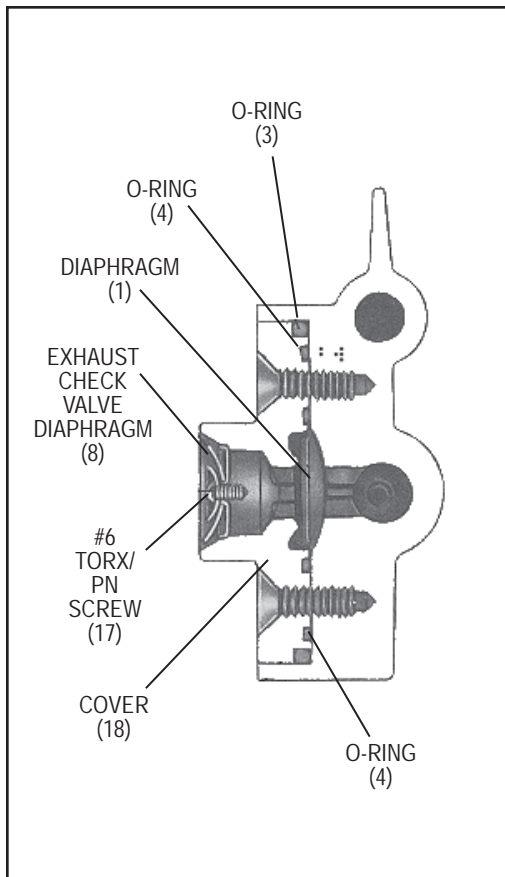
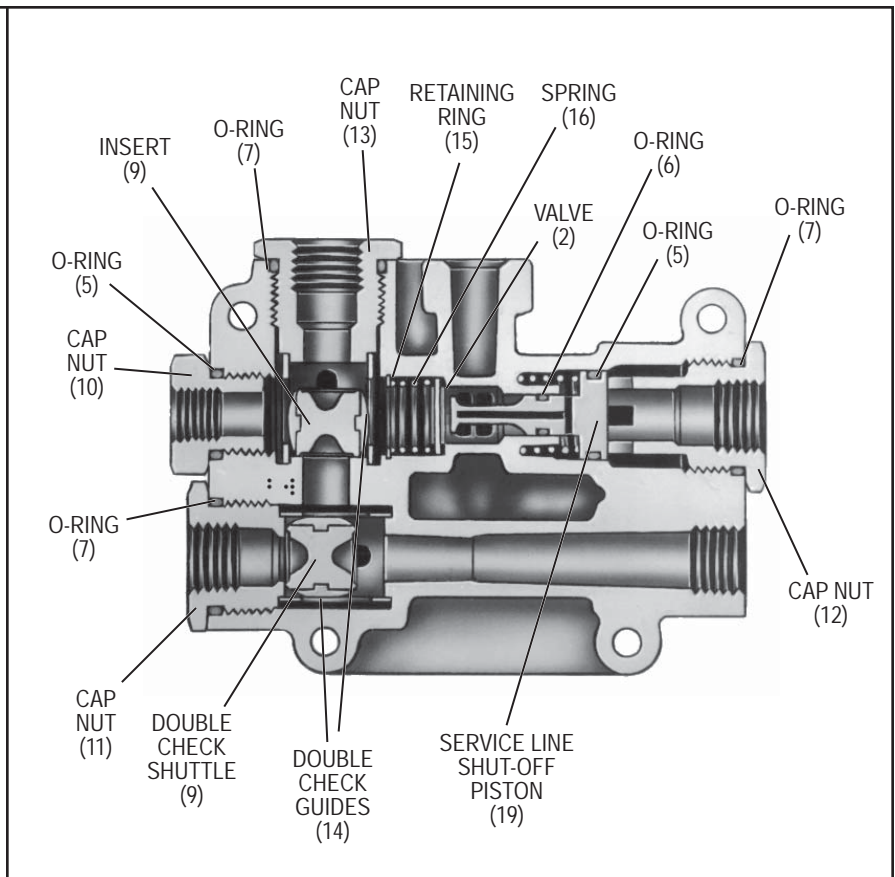

FIGURE 3 - BENDIX® TP-5™ TRACTOR PROTECTION VALVE END SECTIONAL VIEW
FIGURE 4 - BENDIX® TP-5™ TRACTOR PROTECTION VALVE SIDE SECTIONAL VIEW
The trailer service line port is located in the cover, as seen in Figure 3. This cover also houses a quick release valve. Diaphragm (Item 1 in Figure 3) seals off the exhaust port on application and upon release of service line application, permits the trailer service line air to exhaust through the exhaust port, thus permitting faster release times for trailer brake release.
2. Disconnect the trailer service line hose coupling. Make a trailer hand control valve application. Cover the 1/16 inch vent hole in the service line shut-off valve area of the Bendix® TP-5™ valve body. Check for leakage at hose coupling and at exhaust port at the TP-5™ valve. Excessive leakage at either port indicates a faulty inlet valve, item 2 on Figure 4.
6. Check for leakage at the service line quick release valve. Excessive leakage would indicate a defective diaphragm (1). See Figure 3.
8. Check for leakage at the 1/16 inch vent hole. Leakage indicates either o-ring (6) or o-ring (5) on the service line shut-off piston (19) is defective. Note the same size o-ring is identified as (5) is also used on cap nut (10).
9. Release the hand control valve application and re-check for leakage at the vent hole. If the leakage continues, the large o-ring (5) is the cause for the leak and if the leakage stops, the smaller o-ring (6) is the cause of the leak.
12. Reconnect the primary circuit line and reverse the procedure with the secondary circuit line (SCD). Excessive leakage in either (11) or (12) indicates a faulty double check valve shuttle. Restore the secondary circuit connection to the TP-5™ valve.
3. Remove the four cap nuts, (items 10, 11, 12, and 13) from the body. Identify the cap nuts to their respective ports before removing. Remove the o-ring (3 of item 7 and one of item 5). See Figure 4.
4. Remove the double check guides (14) and double check shuttles (9).
5. Reach into the port marked BLK-SLS with a set of snap ring pliers and remove the snap ring (15), spring (16), and valve (2).
6. Remove the two screws which hold the cover (18) to the body. Remove the two small o-rings (4) and one large o-ring (3). Remove the quick release valve diaphragm (1). See Figure 3.
7. Remove the 6-32 pan head screw (17) and remove the exhaust check valve diaphragm (8).
1. Re-install inlet valve (2), spring (16) and lock ring (15) in body. See Figure 4.
2. Install shuttle guides (14) and shuttles (9) and their respective cap nuts (10) and (11).
3. Install the o-rings (5) and (6) on the service line shut-off plunger (19), and install spring (20), plunger and corresponding cap nut (12) with o-ring (7).
4. Position the quick release valve diaphragm in the body (18) and the o-rings (3) and (4) on the cover and install the cover in its cavity in the body. See Figure 3.
5. Replace the exhaust seal diaphragm (8) in the cover.